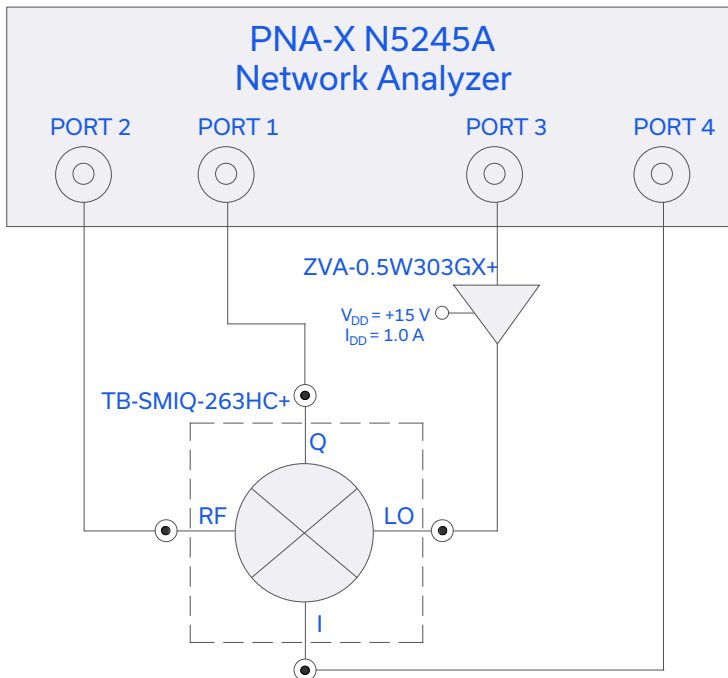

Figure 2. Block diagram of test circuit used to characterize: Conversion Loss, Amplitude Unbalance, Phase Unbalance, Isolation, Return Loss, and Input IP3
1. Measured on Mini-Circuits Characterization Test Board TB-SMIQ-263HC+. See Figures 2, 3, 4 & 5. Board loss de-embedded to the device. Unless otherwise specified, IF = 200 MHz.
2. Conversion loss (dB) = RF Power (dBm) minus the sum of I and Q Port Power (dBm), measured as a Downconverter. Ideal combining; does not take into account 3 dB theoretical loss from internal Network Analyzer hybrid. See measurement block diagram Figure 2.